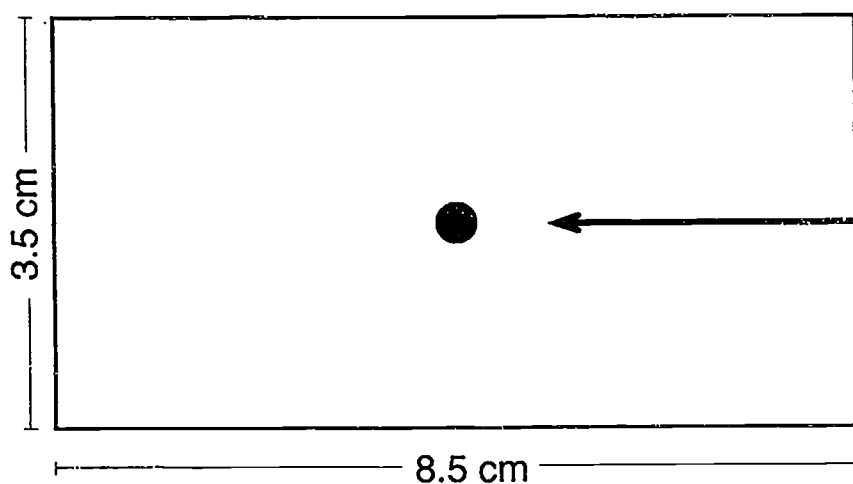

Figure 2. Making the hole for the battery holder.
2. Start a small hole using a nail or awl in the center of the 3.5 cm x 8.5 cm surface of the wood block (Figure 2).
5. Attach the battery holder to the wood block, fixing it in place with the #5 or #6 self-starting screw (Figure 2).